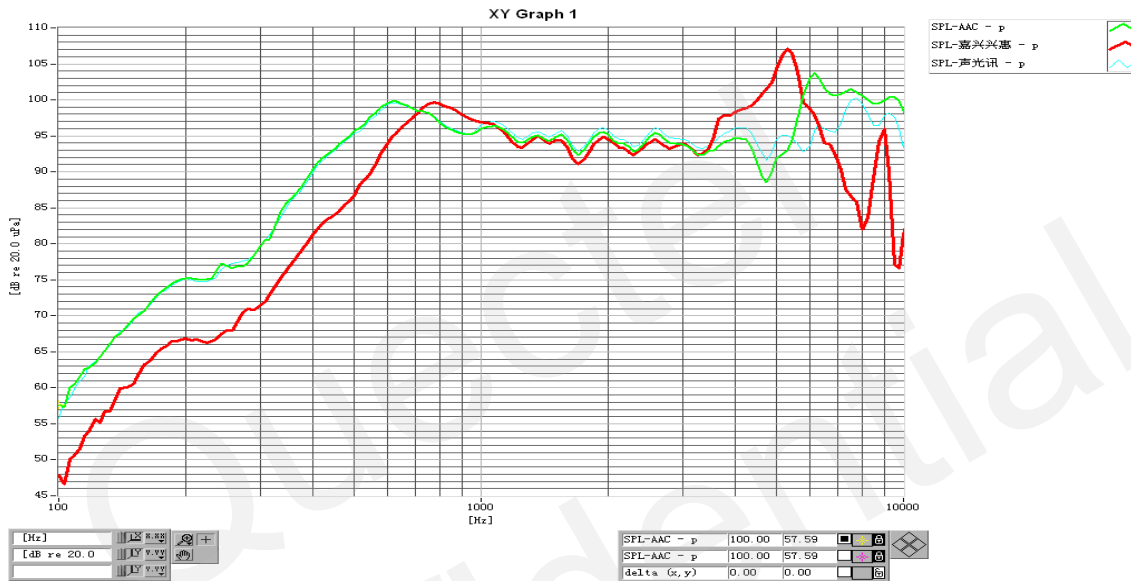
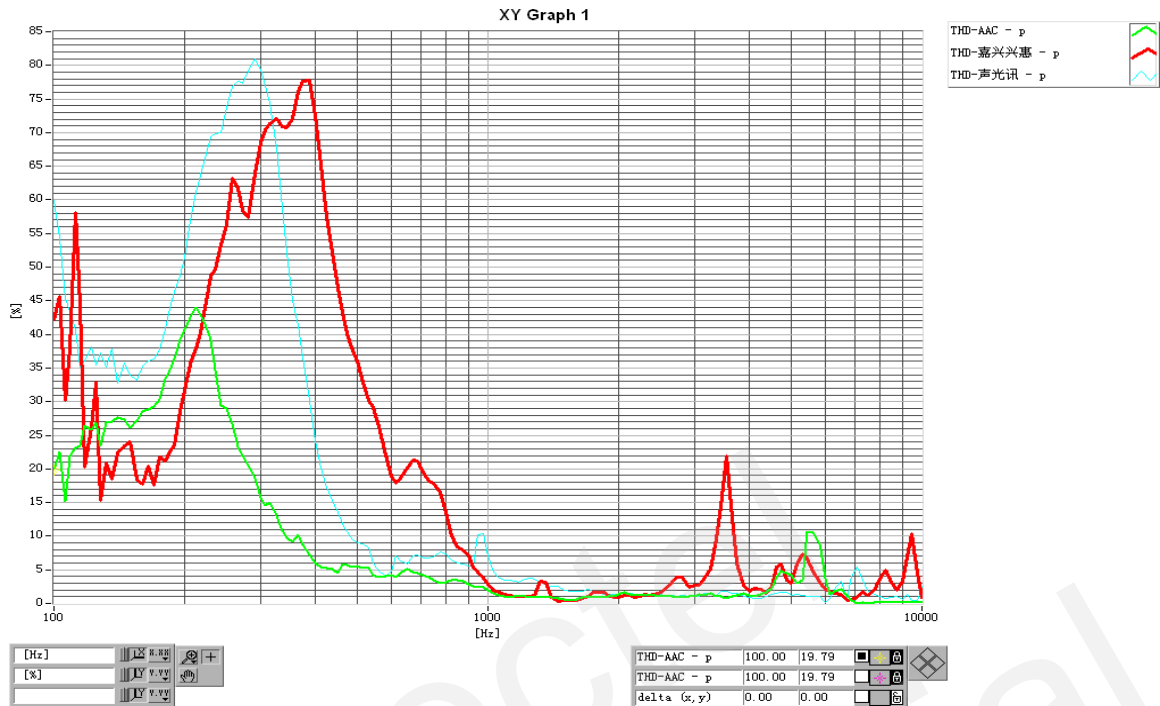

Figure 22: SPK Frequency Response
Figure 23: SPK THD
A SPK and receiver with higher sensitivity, flatter frequency response, less THD and impedance of 32Ω(receiver), 16Ω(receiver) or 8Ω(speaker) is recommended. These technical data are often shown in data sheet of SPK and receiver. For SPK, its frequency response and THD performance can be tested by speaker test system. SPK frequency and THD response are shown in Figure 22 and Figure 23.
2. Figure 23, the three colors represent three vendors' products. After comprehensive comparison, the green one performs the best, and the blue one is second, and the red one is the worst.